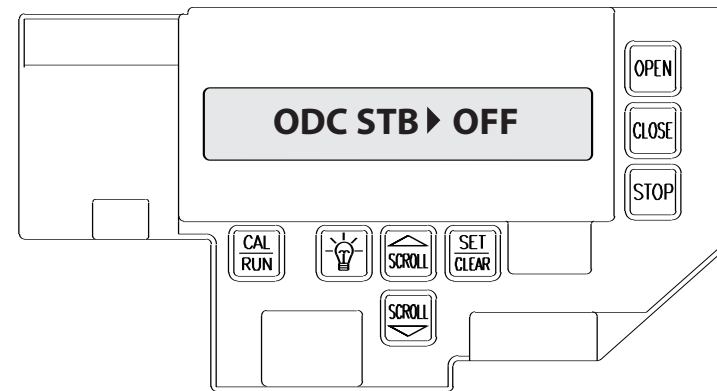

Figure 9
- A)** To turn series II photocells off, repeat process until display reads "ODC STB > OFF." **Fig. 9.**